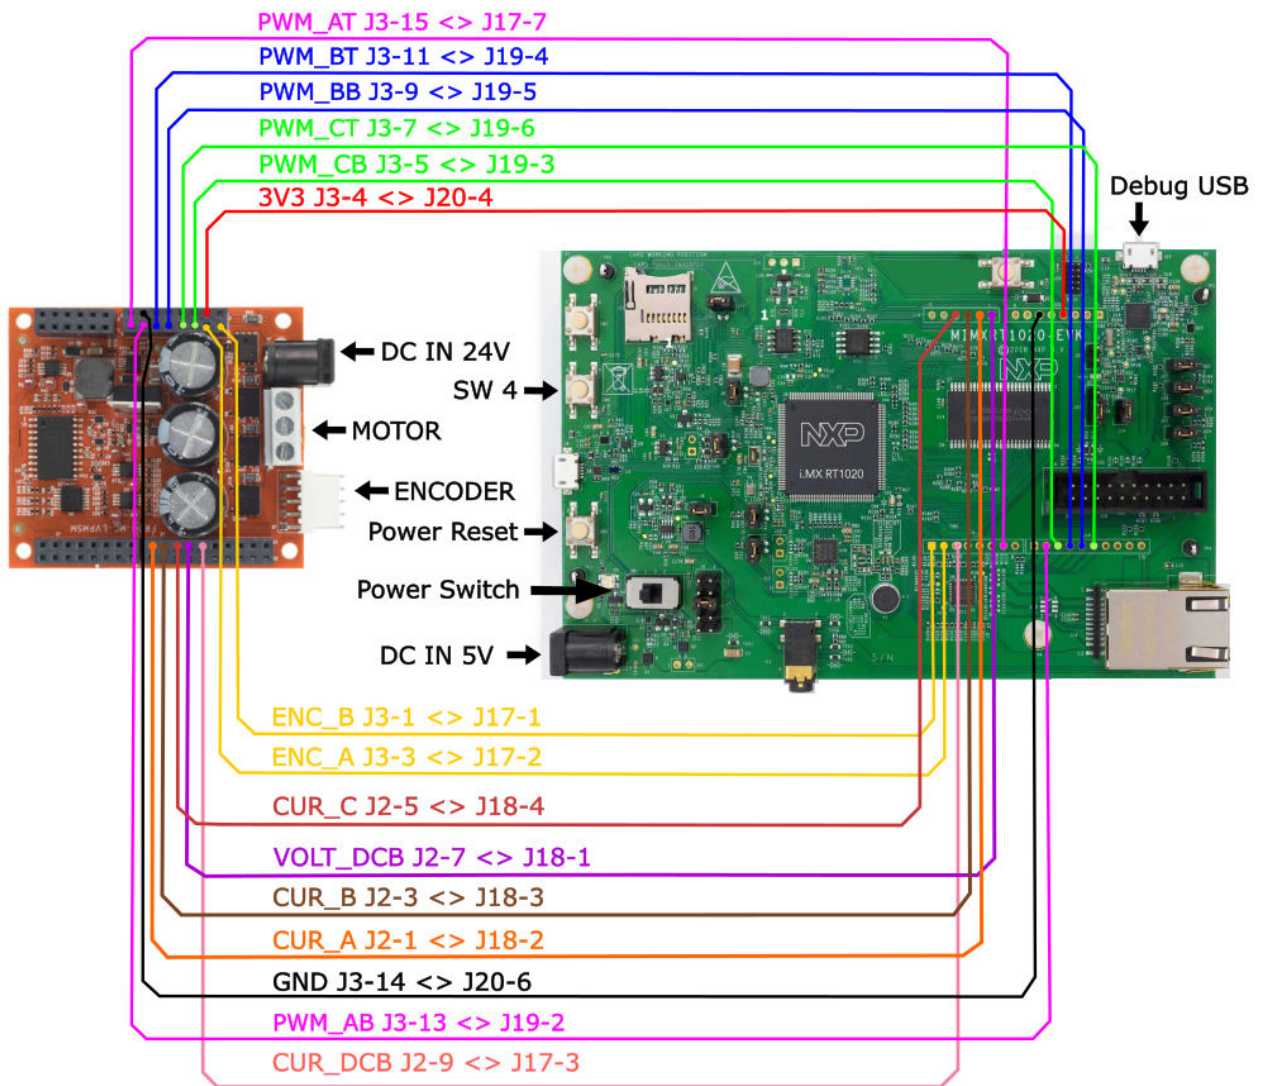

Figure 8. MIMXRT1020-EVK interconnection diagram
1. Wire the FRDM-MC-LVPMSM power stage to the MIMXRT1020-EVK board according to the pin assignment (Table 3) and the interconnection diagram (Figure 8).